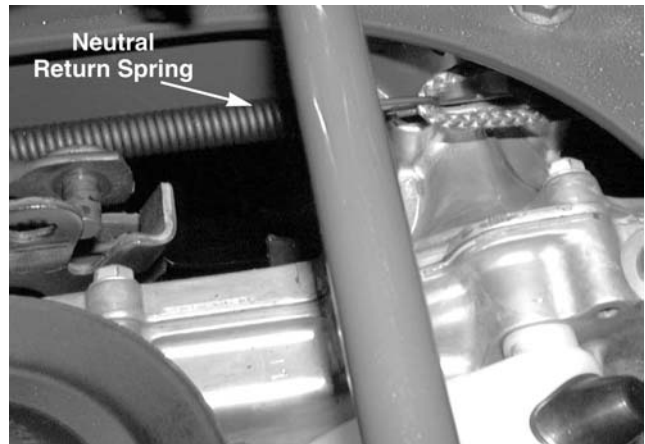

**Figure 9-54**
15. Remove the hairpin securing the hydrostatic foot control rod ferrule and reverse safety bracket to the neutral return plate. See Figure 9-54.